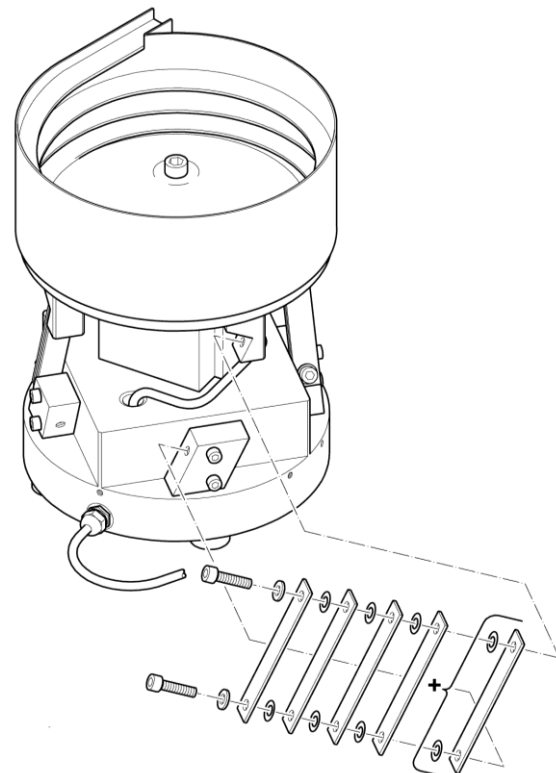

Figure 11
- if this is insufficient, then one spring with spacer plate is to be inserted into the individual spring packages **one by one** (see Figure 11)